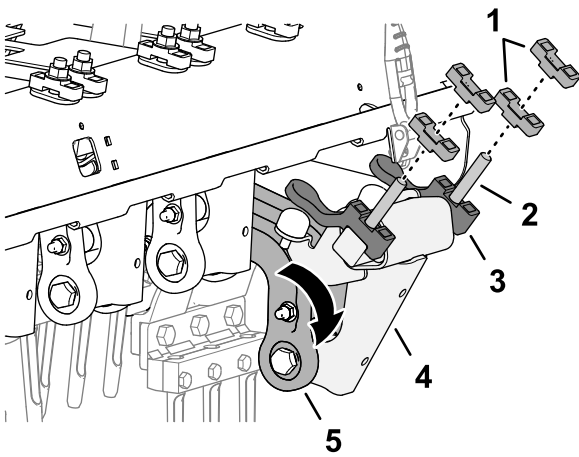

Figure 122
3. Rotate the dampener link and dampener shaft down (Figure 122).